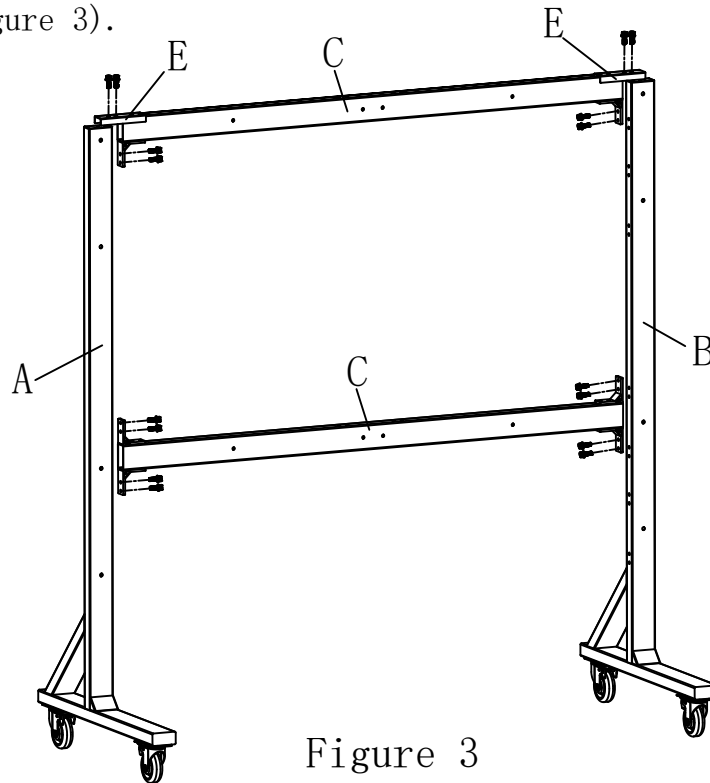

Figure 3
2.1.2 Assemble the pre assembled crossbeam and left and right columns according to the diagram, paying attention to the direction of the upper and lower crossbeams, and use screws (a) to lock and fix them. (as shown in Figure 3).